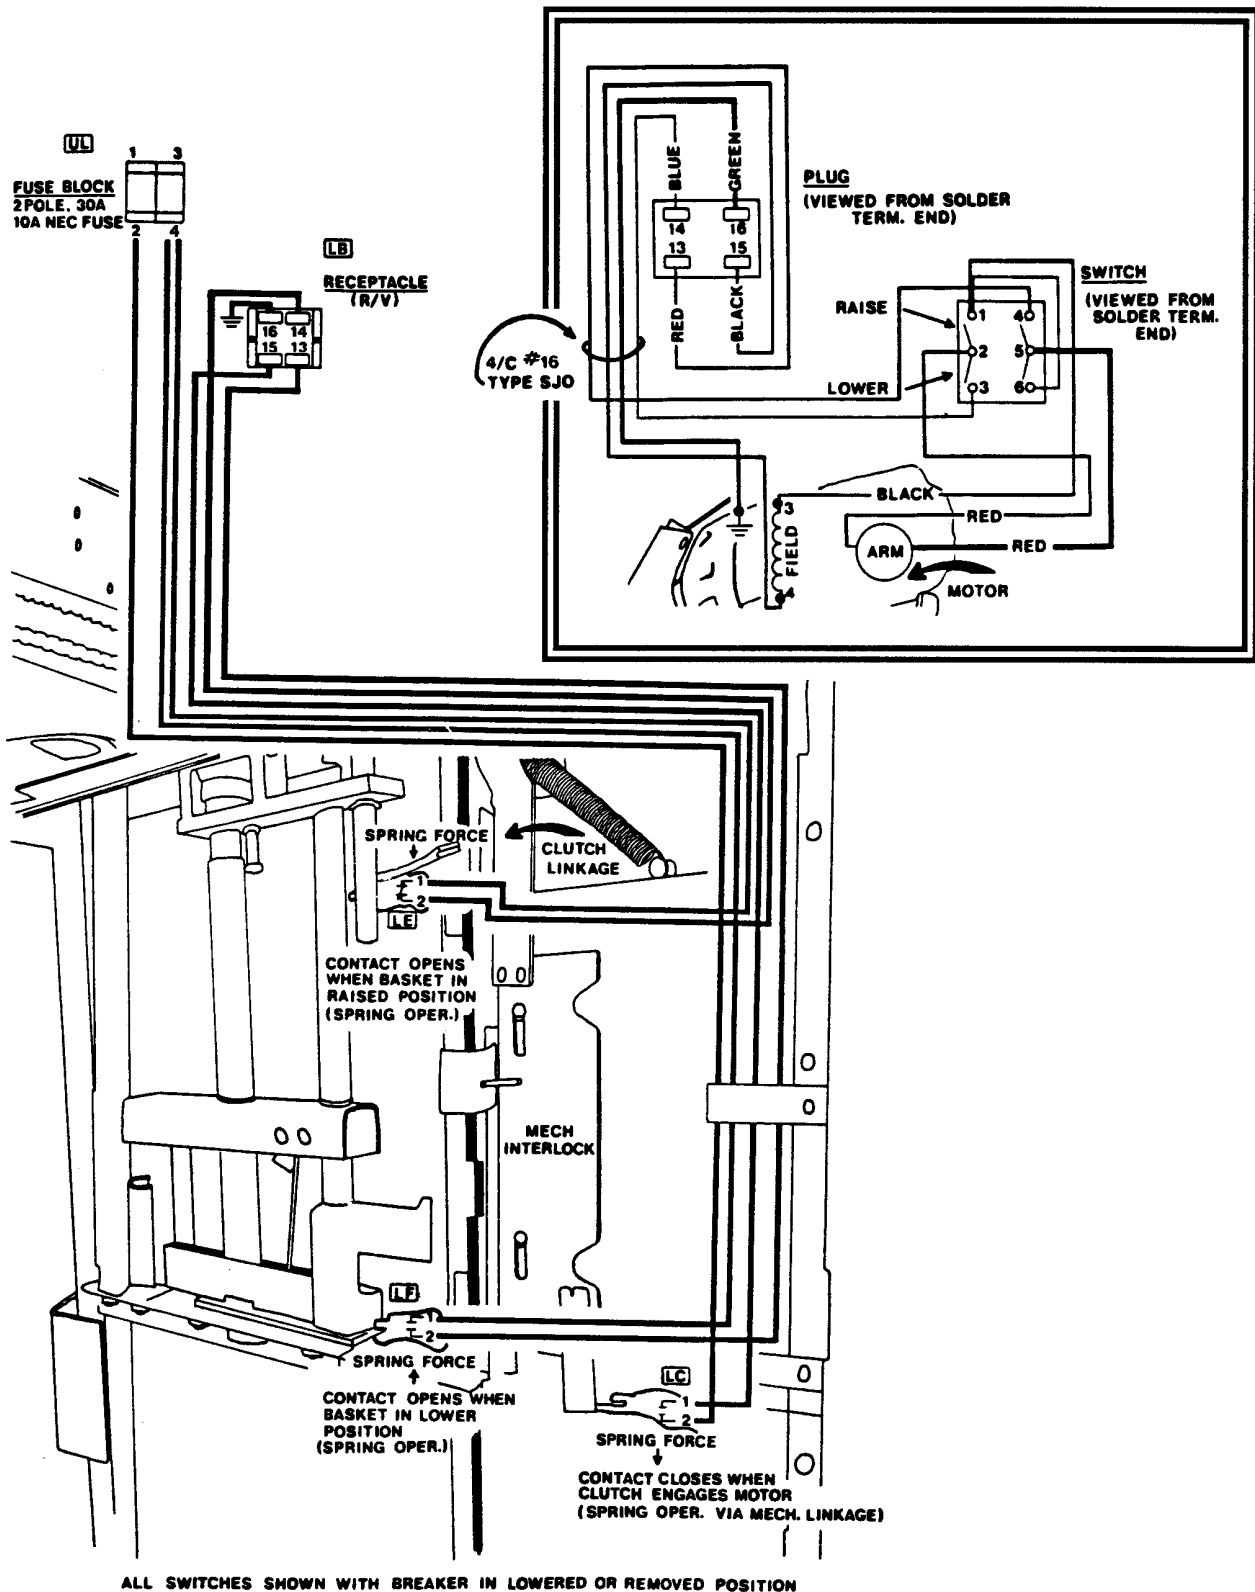

FIGURE 7
8. All breaker cubicles that undergo this modification to the positive interlock cam plate must be checked according to the dimensions given in Figure 7.
a. The 10-7/8" +1/16" -0" dimension from the breaker to the front edge of the positive interlock cam plate must be verified and maintained prior to inserting a replacement PVVL vacuum breaker into the cubicle. See Figure 7(C).
b. The 1/16" clearance between the stationary flag, just behind the upper "Vee" notch and the interlock roller must be maintained or reset if required. The breaker should be in the fully raised position. See Figure 7(A).
must remain locked and not allow the motor handle to be moved far enough to engage the clutch and close the clutch switch contacts that energize the motor circuit. There should be 1/16" clearance between the clutch and motor coupler, when the motor handle is pulled forward. See Figure 7(A).
5. Pull back the elevating handle on the motor so that the interlock roller is at the dimension shown in Figure 7. (11/16" +0 -1/16) Hold it in this position while pressing the manual close push button on the breaker. The main power springs must discharge and the breaker must remain open, as indicated by the semaphores on the front of the breaker. This indicates that the breaker contacts will not close during raising or lowering the breaker.
The purpose of the positive interlock is to prevent moving the breaker to or from the connected position while the main contacts are closed, and to prevent closing the contacts unless the breaker is in the fully connected position. These important safety features are achieved by means of the positive interlock roller on the right side of the breaker and positive interlock cam and stationary "flag" on the switchgear, as shown in Figure 7.
The following adjustments are made at the factory and verified for proper operation per Figure 7. The distance from the top of the stationary flag to the top of the switchgear guide rails is set. This maintains the surface upon which the breaker wheels rest when the breaker is lowered. The upper elevating motor limit switch is then adjusted to achieve a roller to flag clearance of 1/16" to 1/8" as shown in Figure 7. The limit switch de-energizes the elevating motor circuit and should be activated when the primary disconnects and secondary coupler reach their nominal contact penetration position. If the timing of this sequence is off, the cubicle must be adjusted back to factory specifications.